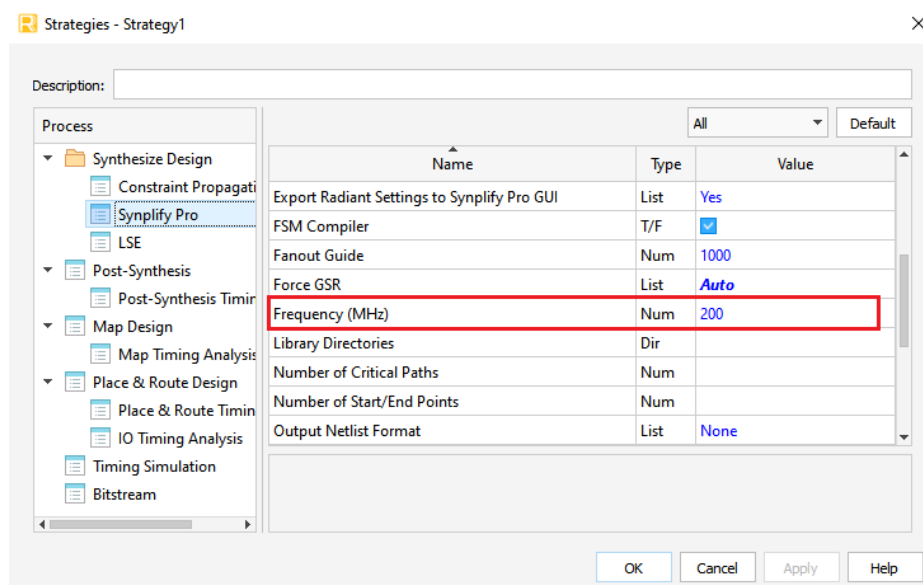

Figure C.60. Strategy for Build Generation for Main System
10. Change value of Frequency to **200 MHz** as shown in Figure C.60.